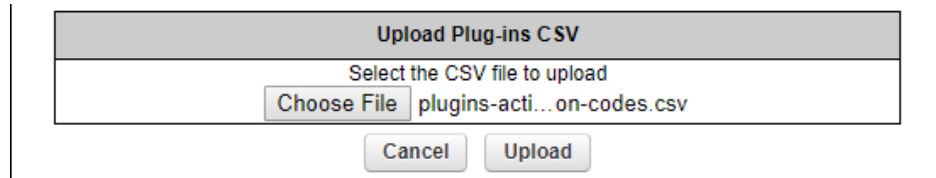

Figure 71. MANAGE PLUG-INS DIALOG (Upload Plug-ins CSV section)
7. Upload the *.CSV file to the unit by clicking the **Choose File** button in the **Upload Plug-ins CSV** section (Figure 71 (page 156)) and following the software prompts.